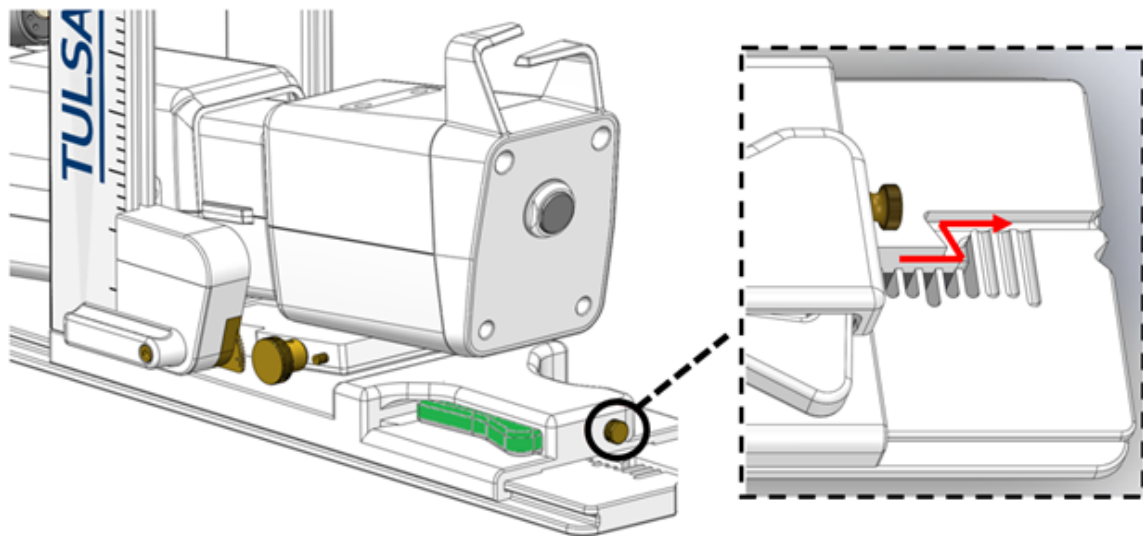

Figure 65: Removing PS from base plate
1. Remove the PS from its notched base plate by partially unscrewing the thumbscrew located on the rear of the PS base and depressing the horizontal adjustment lever through the Z channel at the rear of the PS base (*Figure 65*).